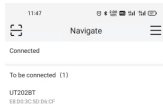

Figure 14
- 1) Short press the button  to turn on UT202BT Bluetooth, if UT202BT fails to connect with the APP, the Bluetooth symbol on the LCD will flash. Tap "IDMM2.0" icon on mobile phone to enter Navigate interface, "IDMM2.0" will search UT202BT Bluetooth automatically, after the model "UT202BT" is displayed in the list (Figure 14), please select "UT202BT" to connect. The other way to connect is to scan the QR code on UT202BT. After the connection is completed, the Bluetooth symbol on LCD will be displayed constantly, data communication, measurement value display, button control and other operations can be achieved between IDMM2.0 and UT202BT.